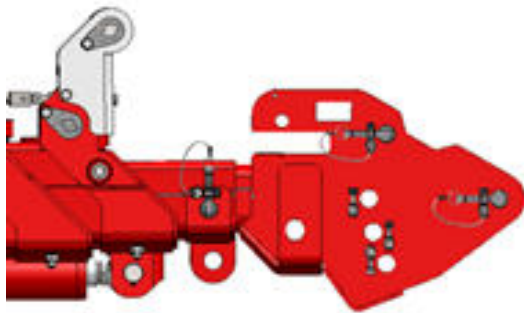

Figure 4.13 Attachment of adjustable section to boom
2. Place the adjustable section in the boom and secure it with the locking pin and locking clip (see *Figure 4.13*).